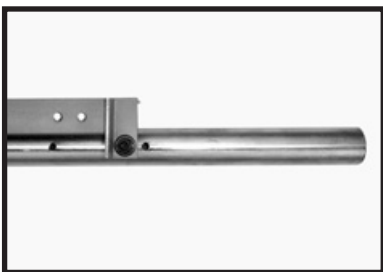

Fig. 20
3. Locate the rail (Fig.20), two 1" hex head screws, 2 flat washers, 2 special washers, and 2 hex nuts. Make sure that the rail/bracket is assembled as shown in Fig. 20, and that the short end of the rail (stud closest to the end) is on the right of the bracket. (If the rail has been previously attached with the long end to the right, remove the bracket, turn the rail 180 degrees, and re-attach the bracket.)
3. Locate the rail (Fig.23), two 1" hex head screws, 2 flat washers, 2 special washers, and 2 hex nuts. Make sure that the rail/bracket is assembled as shown in Fig. 20, and that the short end of the rail is on the right of the bracket. (If the rail has been previously attached with the long end to the right, remove the bracket, turn the rail 180 degrees, and re-attach the bracket.)